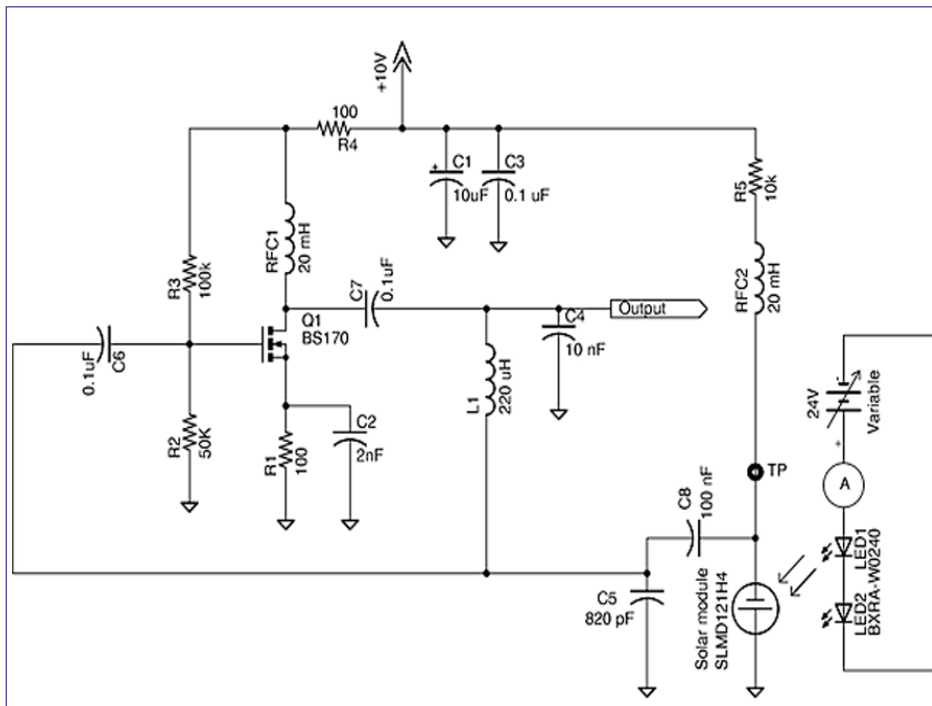

Figure 1: Light-controlled Pierce oscillator
The isolation amplifier circuit of Figure 1 is simple but accurate. With the values shown it converts 0 to 5V DC or low frequency signals with unity gain, but you can adjust the gain by changing R4.
The lower half of Figure 1 is a DC to DC converter providing +12V and -5V to the isolated portion U1A and U1B. U2B through U2F is an oscillator and driver for Q1 which acts as a forward converter. The miniature transformer has been selected for its low interwinding capacitance, high primary inductance, and adequate leakage capacitance, which limits Q1's peak current. Because the frequency is high (about 300 kHz) and the primary inductance high (10 mH), the energy stored in the transformer is so low (15 mW avg.) that there is no need for snubber components, and Q1 itself clamps the overvoltage at turn off.
**Figure 1** The floating sigma-delta converter U1 generates a pulse train whose duty cycle depends on the voltage at J1 and J2. The filtered DC level is reconstructed at the output J3.